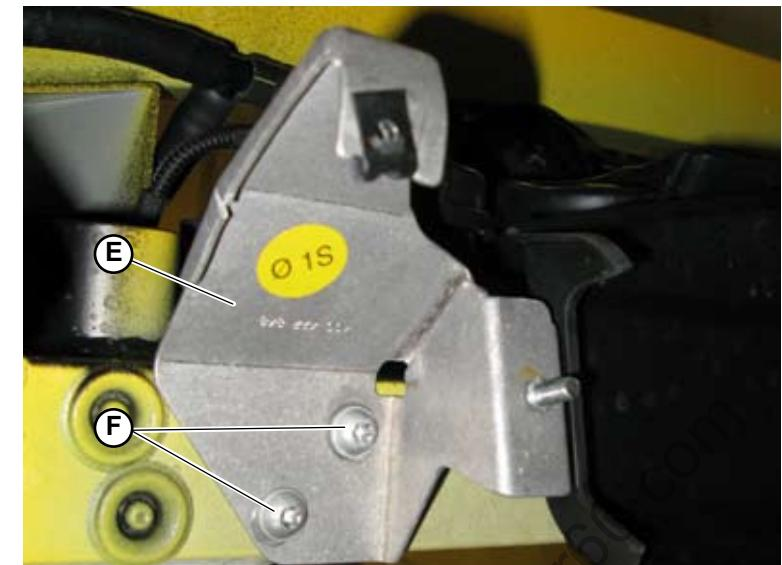

Fig.5
1. Remove the 2 clamps from the power steering oil radiator pipes (A-Fig.5) and remove the pipes.